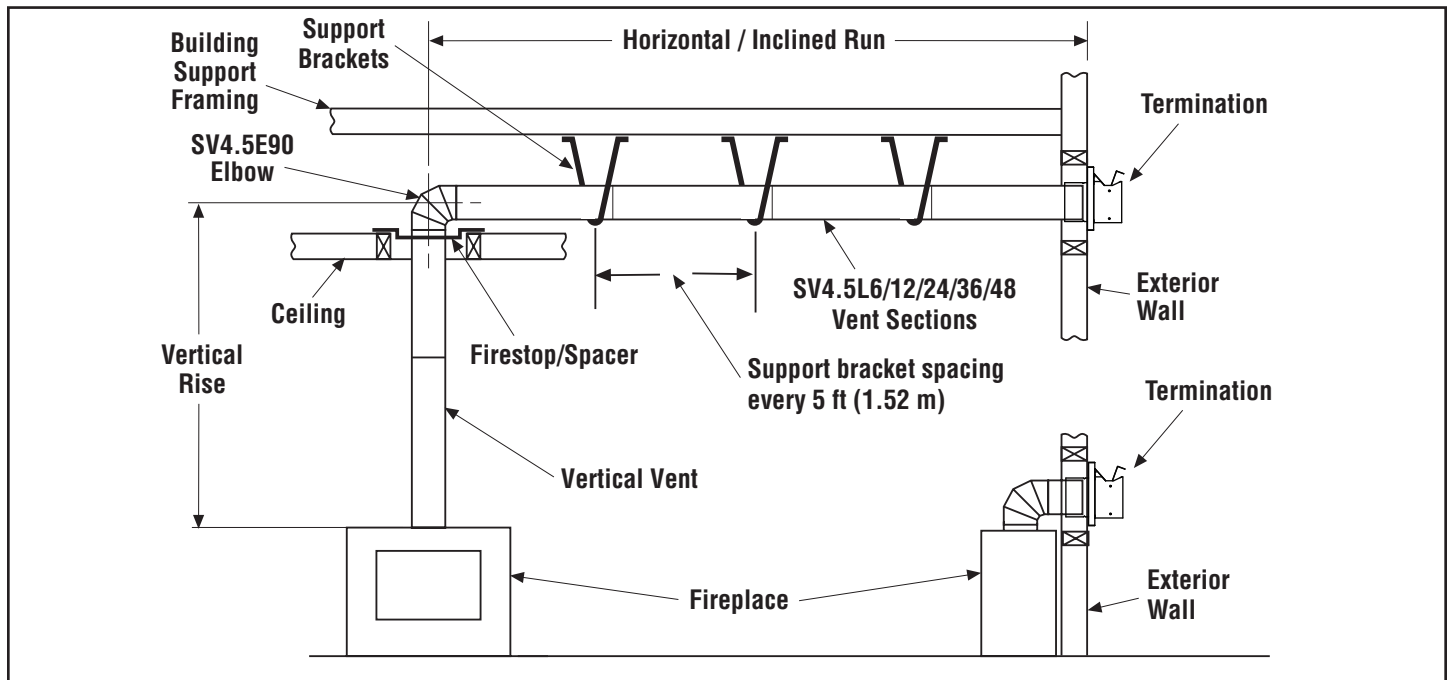

Figure 8 - Typical Horizontal Vent Installation
- 7. Support fireplace vent outlet with field provided support straps (Plumber's tape)**—Attach the straps to the vent pipe and secure to the framing members with nails or screws (Figure 8).
9. **Continue installation of horizontal/inclined sections—**Continue with the installation of the straight vent sections in horizontal/inclined run. Install support straps every 5 ft. (1.52 m) along horizontal/inclined vent runs using conventional plumber's tape (Figure 8, page 14). Maintain the horizontal/inclined run in a straight (no dips), slightly elevated plane. The recommended incline is approximately 1/4" per 1 ft (20 mm per 1 m) horizontal, in a direction away from the fireplace. Smaller rise per foot run ratios are acceptable all the way to at or near level. Use a carpenter's level to measure from a constant surface and adjust the support straps as necessary. Maintain the required clearances to combustibles (Page 9).